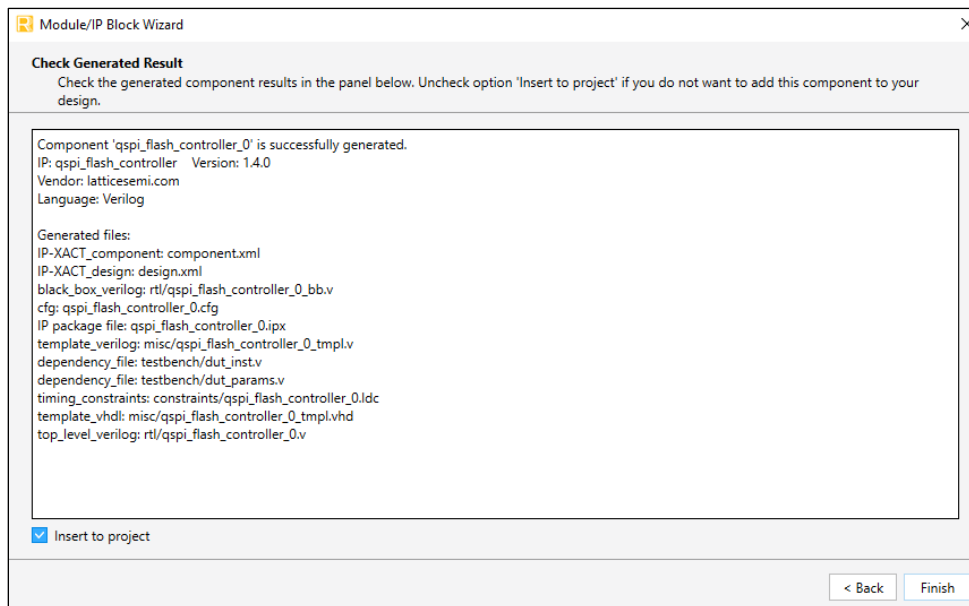

Figure 7.4. Check Generating Results
4. Click **Generate**. The **Check Generating Result** dialog box opens, showing design block messages and results as shown in Figure 7.4.